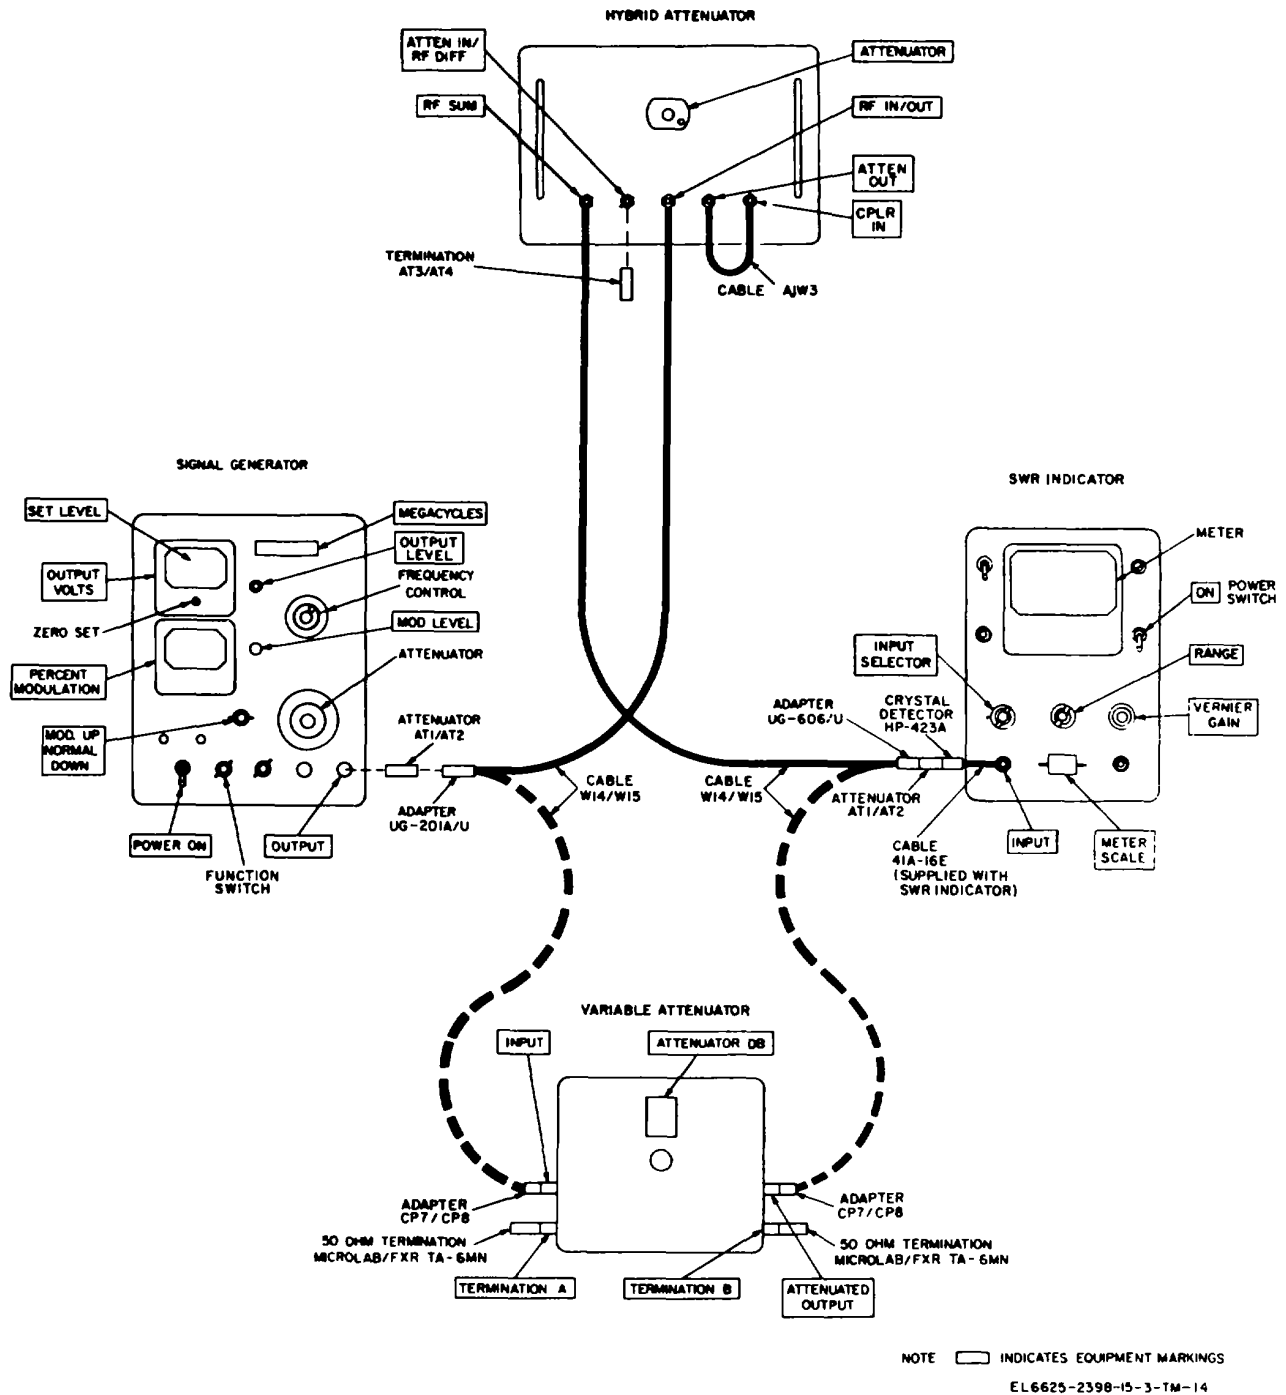
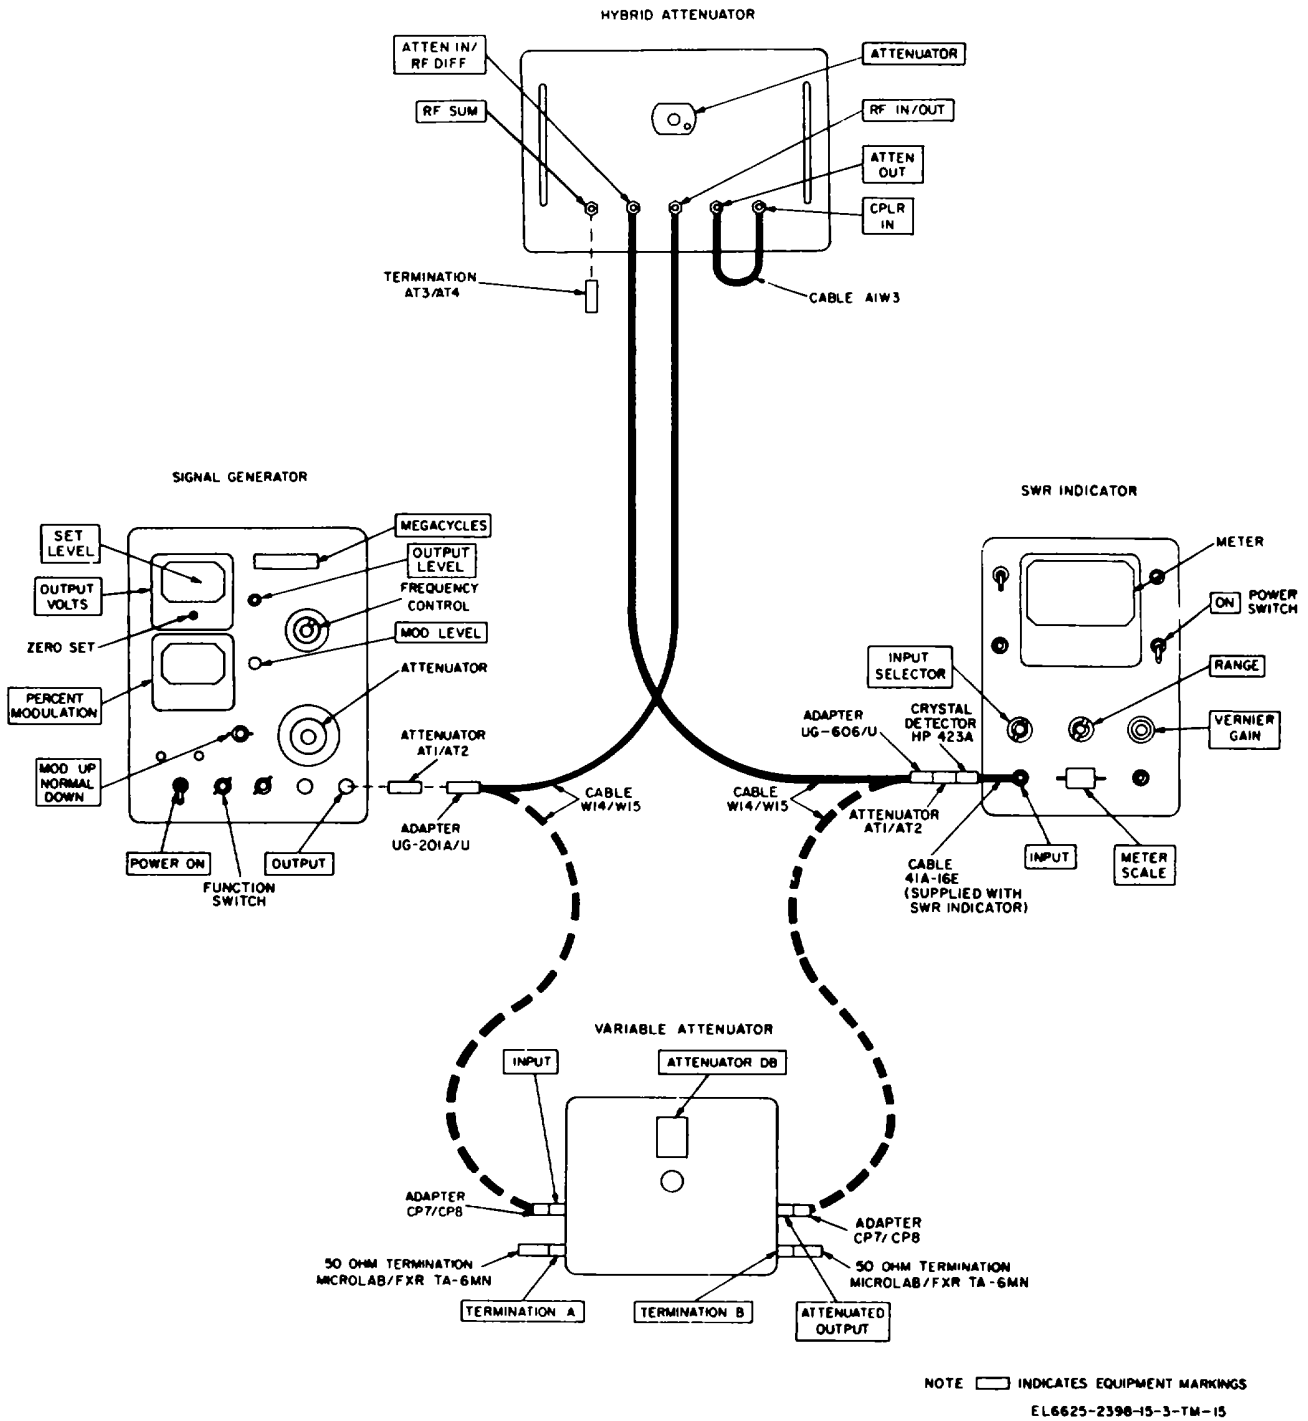

Figure 6-2. Hybrid attenuator sum channel (RF IN/OUT to RF SUM )jacks) insertion loss, calibration connections.
Figure 6-3. Hybrid attenuator difference channel (RF IN/OUT to ATTEN IN/RF DIFF jacks) insertion loss, calibration connections.
(1) Repeat step a(3).
(2) Connect the LINE test lead of the megger successively between tests to each plug contact pin. In turn, connect the GROUND lead to each of the other plug contact pins. Repeat step a(4) for each wire. Perform 325 separate tests until all wires have been tested with respect to each other.
**6-8. Hybrid Attenuator Sum Channel (RF IN/OUT to RF SUM Jacks) Insertion Loss Calibration (fig. 6-2)**
- 50-ohm Terminations (2), Microlab/FXR
- b. Procedure. Connect the equipment as shown in solid lines (fig. 6-2) and proceed as follows:
- (1) On the signal generator, set the MEGACYCLES dial to 1090 with the frequency control knob. Set the function switch to CW and turn on the signal generator. Allow a minimum of 20 minutes warm-up period before proceeding.
- (2) With the METER SCALE set to NORMAL, and INPUT SELECTOR set to XTAL 200K a, turn on the SWR indicator and allow a minimum of 10 minutes warm-up period before proceeding.
- (3) Turn off the signal generator and zero set the OUTPUT VOLTS meter.
- (4) Turn on the signal generator, and ad-
(5) On the signal generator, set the function switch to 1000 - the MOD. UP-NORMAL-DOWN to NORMAL and adjust the MOD. LEVEL control for a reading of 50 on the PERCENT MODULATION meter. With the SWR indicator METER SCALE set to EXPAND, adjust the SWR indicator VERNIER GAIN control and RANGE switch for an exact meter reading (e g, 5 on the EXPANDED DB meter scale.) Record the meter reading.
(6) Disconnect the hybrid attenuator under test and connect the variable attenuator, as shown by the broken lines in figure 6-2.
(7) adjust the variable attenuator ATTENUATOR DB control for the same SWR indicator meter reading recorded in step b(5). Insertion loss on the ATTENUATOR DB control of the variable attenuator must indicate  $6.5 \pm 1.5$  dB.
(8) Correct the hybrid attenuator calibration tag marking for 1090 MHz, if incorrect.
(9) Reconnect the hybrid attenuator, solid lines figure 6-2.
(10) Reset the signal generator MEGACYCLES dial to 1030 and repeat steps (3) through (7) above.
(11) Correct the hybrid attenuator calibration tag marking for 1030 MHz, if incorrect.
**6-9. Hybrid Attenuator Difference Channel (RF IN/OUT to ATTEN IN/RF DIFF Jacks) Insertion Loss Calibration** (fig. 6-3)
- 50-ohm Terminations (2), Microlab/FXR TA-6MN
b. *Procedure.* Connect the equipment as shown in solid lines, (fig. 6-3) and proceed as follows:
(1) On the signal generator, set the MEGACYCLES dial to 1030 with the frequency control knob. Set the function switch to CW, and turn on the signal generator. Allow a minimum of 20 minutes warm-up period before proceeding.
(2) With the METER SCALE set to NORMAL and INPUT SELECTOR set to XTAL-200K n, turn on the SWR indicator, and allow a minimum of 10 minutes warm-up period before proceeding.
(3) Turn off the signal generator and zero set the OUTPUT VOLTS meter.
(4) Turn on the signal generator, and adjust the OUTPUT LEVEL control knob for an OUTPUT VOLTS meter indication at the SET LEVEL (+4 DBM) mark, with the attenuator set to OdB.
(5) On the signal generator, set the function switch to 1000-, the MOD. UP-NORMAL-DOWN switch to NORMAL and adjust the MOD. LEVEL control for a reading of 50 on the PERCENT MODULATION meter. Set the hybrid attenuator ATTENUATOR control to 0 (zero). Adjust the SWR indicator VERNIER GAIN control and the RANGE switch for an exact meter reading (e.g., .6 on the DB meter scale). Record the meter reading.
(6) Disconnect the hybrid attenuator under test and connect the variable attenuator, as shown by broken lines, figure 6-3.
(7) Adjust the variable attenuator AT-
(8) Correct the hybrid attenuator calibration tag marking, if incorrect.
(9) Successively increase the ATTENUATOR DB control, from the reading obtained in step (7), by 6, 9, and 12. Record the readings on the meter of the SWR indicator for the variable attenuator ATTENUATOR DB control settings of plus 6dB, plus 9dB, and plus 12dB.
(10) Reconnect the hybrid attenuator, solid lines figure 6-3.
(11) Adjust the hybrid attenuator ATTENUATOR control for the same SWR indicator meter readings recorded in step (12). Insertion losses must be within the following limits: